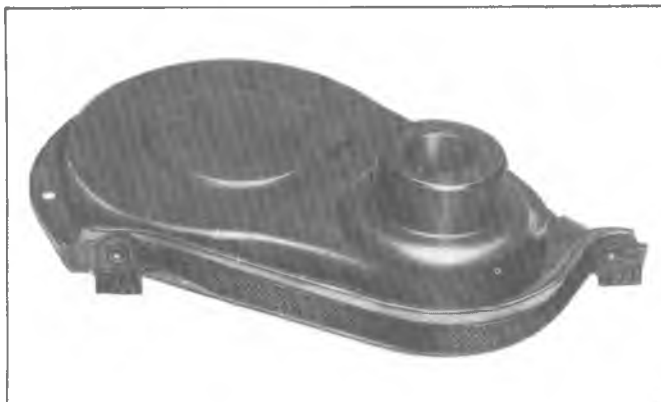

Fig. 12L—Centering Tool (J-23042) In Cover
2. Install centering Tool J-23042 in crankcase front cover seal (fig. 12L).